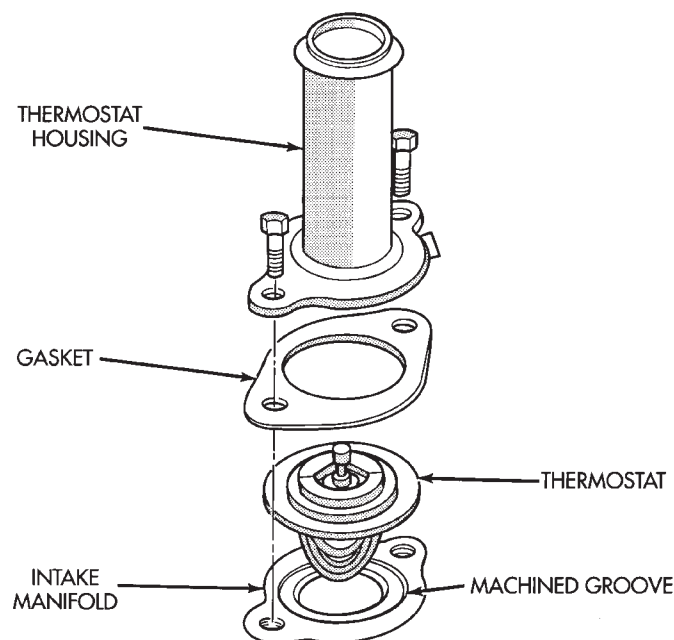

Fig. 35 Thermostat—3.9L/5.2L/5.9L Engines
(5) Remove upper radiator hose clamp and upper radiator hose at thermostat housing.
(6) Position wiring harness (behind thermostat housing) to gain access to thermostat housing.
(7) Remove thermostat housing mounting bolts, thermostat housing, gasket and thermostat (Fig. 35). Discard old gasket.
(1) Clean mating areas of intake manifold and thermostat housing.
(2) Install thermostat (spring side down) into recessed machined groove on intake manifold (Fig. 35).
(3) Install gasket on intake manifold and over thermostat (Fig. 35).